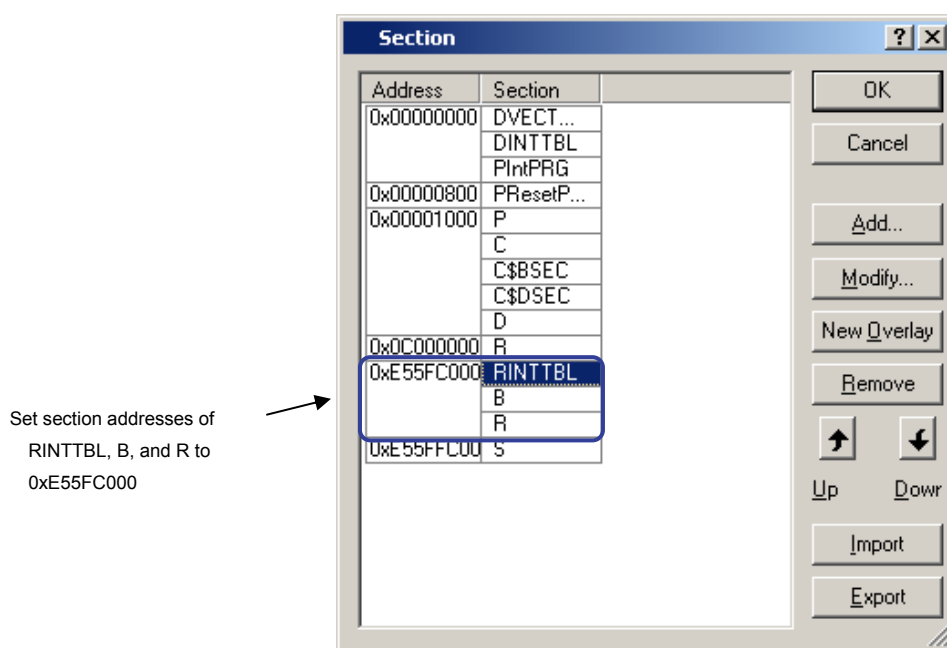

Figure 5.3.17 Change Section (1/3)
(1) Set the RINTTBL section to on-chip RAM area in [Section] dialog box as shown in Figure 5.3.17.